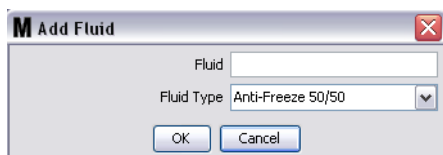

FIG. 67
3. On the Add Fluid screen type in a name for the fluid in the Fluid field (FIG. 67). (40 character maximum. For ease of identification and reporting, it is recommended that short Fluid Names are used.